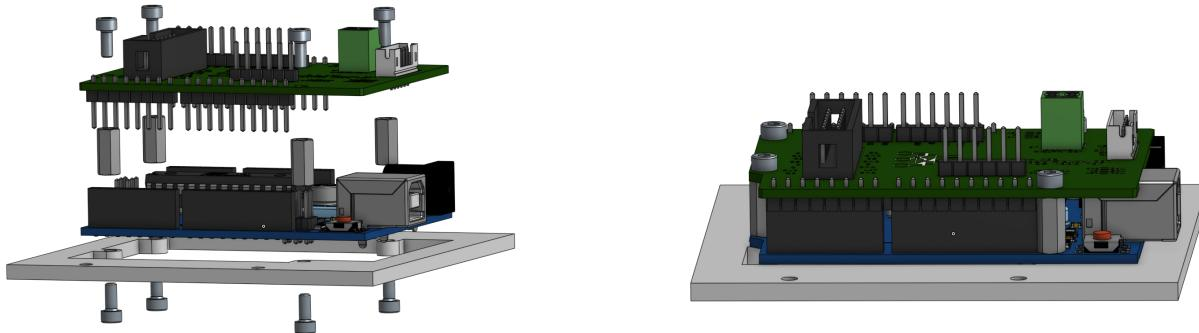

Figure 2: Building Arduino Stack
- Assemble the Arduino Stack:** Begin by stacking together the Arduino Uno **E24**, Arduino Shield **E2**, Standoffs **T10**, Screws **B10**, and Arduino Plate **S44** and fastening them as shown in Figure 2.